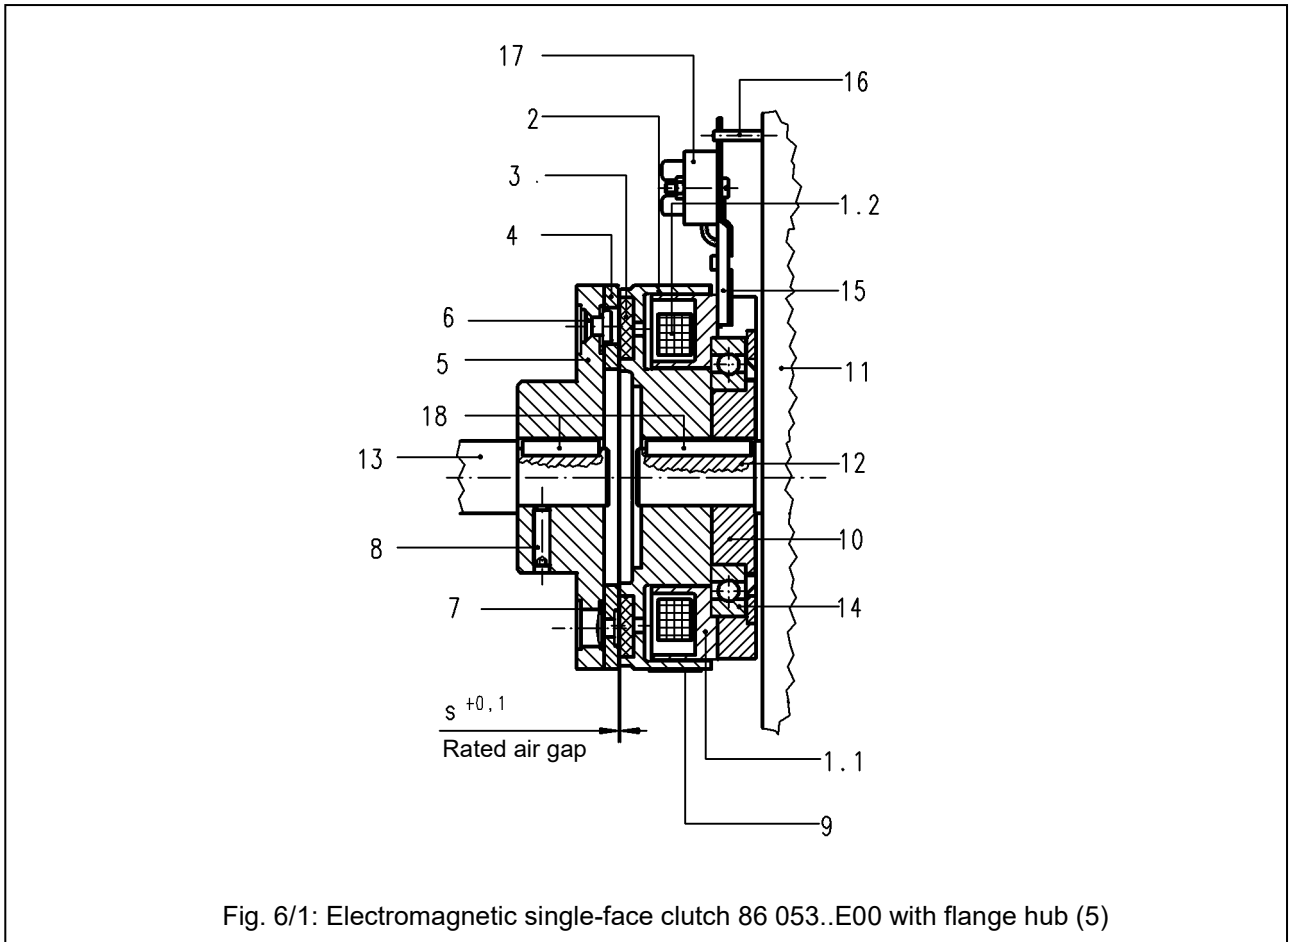

Fig. 6/1: Electromagnetic single-face clutch 86 053..E00 with flange hub (5)
List of reference numerals in Fig. 6/1:
Press the bush (10) with the magnet housing (1.1) and field coil (1.2) onto the drive shaft (12) of the machine. The drive shaft (12) features a feather key (18). Then press the magnet body (2) onto the drive shaft (12) and secure it axially until the front face of the magnet body (2) is in direct contact with the inner ring of the deep groove ball bearing (14). For uniform loads, the drive shaft should have a j6 tolerance, whereas a k6 tolerance is required for irregular loads. Lock the magnet housing (1.1) with the retaining arm (15) and straight pin (16) (see Fig. 6/1) to prevent torsion.